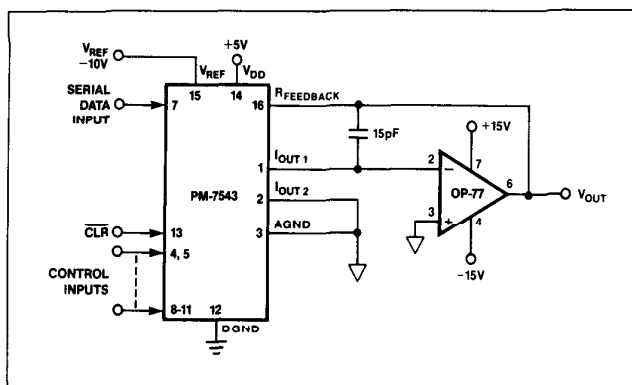

FIGURE 7: Unipolar Operation with High Accuracy Op Amp (2-Quadrant)
1. Phase compensation (see Figures 7 and 8).
In most applications, linearity depends upon the potential of I_{OUT1} , I_{OUT2} , and AGND (pins 1, 2, and 3) being exactly equal to each other. In most applications, the DAC is connected to an external op amp with its noninverting input tied to ground (see Figures 7 and 8). The amplifier selected should have a low input bias current and low drift over temperature. The amplifier's input offset voltage should be nulled to less than $\pm 200\mu V$ (less than 10% of 1 LSB).
The circuit shown in Figures 7 and 8 may be used with an AC or DC reference voltage. The circuit's output will range between 0V and approximately $-V_{REF}$ (4095/4096) depending upon the digital input code. The relationship between the digital input and the analog output is shown in Table 2. The V_{REF} voltage range is the maximum input voltage range of the op amp or $\pm 25V$, whichever is lowest.
1. Nominal full scale for the circuits of Figures 7 and 8 is given by $FS = -V_{REF} \left(\frac{4095}{4096}\right)$.
2. Nominal LSB magnitude for the circuits of Figures 7 and 8 is given by $LSB = V_{REF} \left(\frac{1}{4096}\right)$ or $V_{REF} (2^{-n})$.
The transfer function for the PM-7543 connected in the multiplying mode as shown in Figures 7 and 8 is: